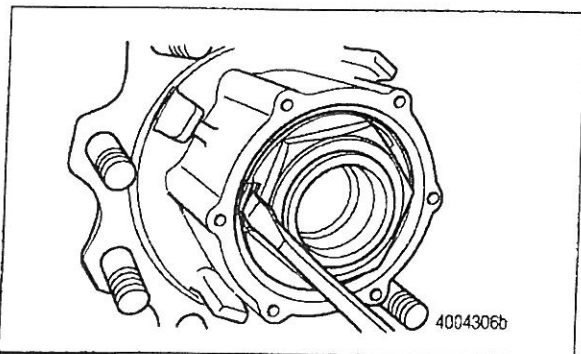

Figure 2
- Use a screwdriver to release the stakes from the stake washer flange. Figure 2.